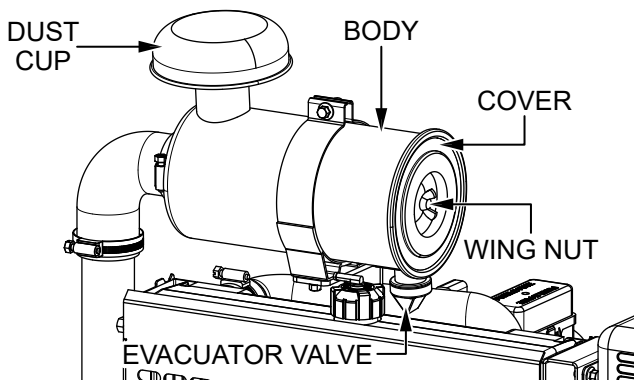

Figure 36. Engine Air Cleaner
The **engine air cleaner** (Figure 36) is equipped with a dry-type filter element. Never apply oil to the air cleaner.
1. To remove large dust and dirt particles, open the **evacuator valve** (Figure 36) once a week under ordinary conditions, or daily when used in dusty conditions.
2. Remove the **wing nut** (Figure 36) and **air cleaner cover** to inspect the filter element. Clean or replace the filter element if it is dirty. Avoid touching the element except when cleaning. Replace the element if it is damaged.
6. If the inside of the **air cleaner body** (Figure 36) is dirty or wet, wipe it clean with a dry cloth.
7. Open and clean out the **dust cup** (Figure 36) before it becomes half full with dust, usually once a week under ordinary conditions, or daily when used in dusty conditions.